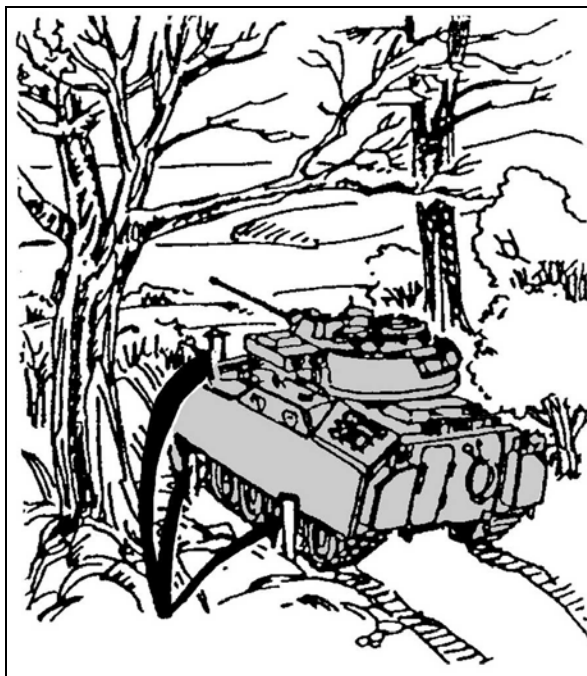

Figure 7-23. Staked position.
a. **Stake the Position.** Before the driver moves the Bradley, stake the position. Three stakes are required to mark the position effectively (Figure 7-23).